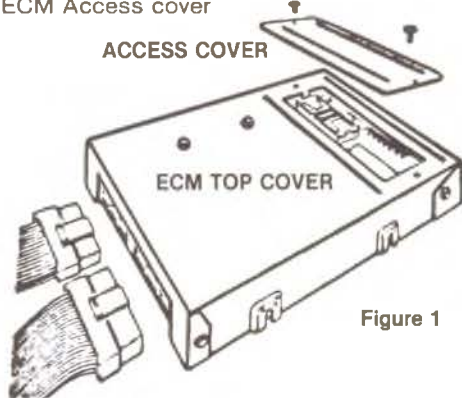

Figure 1
**Remove or Disconnect (Figures 1 and 2)**
**Install or Connect (Figures 1 and 3)**